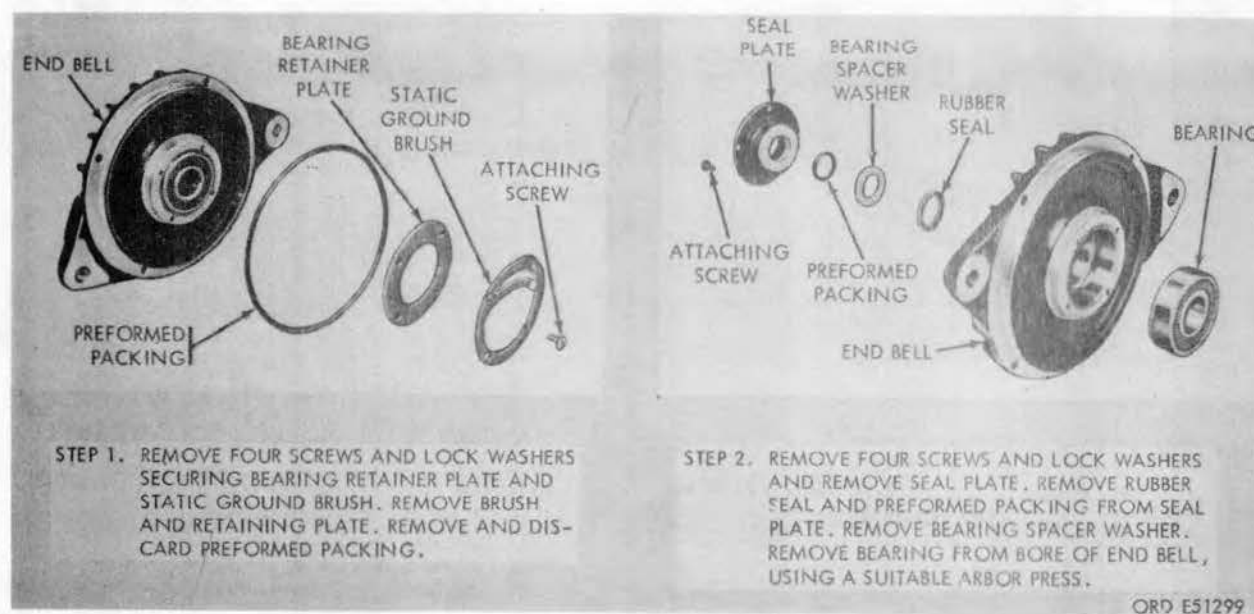

FIGURE 17. DISASSEMBLING DRIVE END BELL.
b. Disassemble drive end bell following instructions in figure 17.